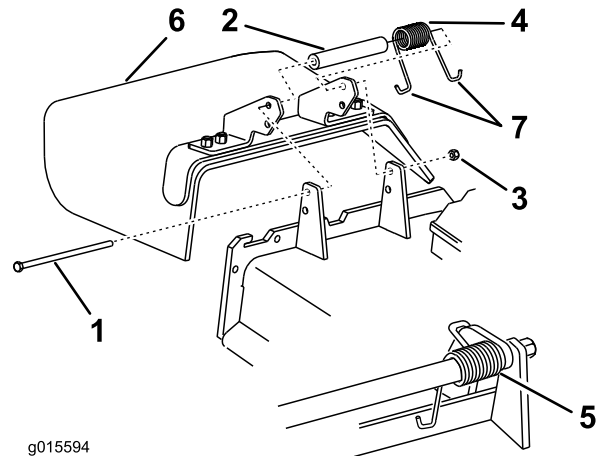

Figure 98
1. Remove the locknut, bolt, spring, and spacer holding the deflector to the pivot brackets (Figure 98).
Note: Make sure one J-end of spring is installed behind deck edge before installing the bolt as shown in Figure 98.
4. Install bolt and nut. Place one J-hook end of spring around grass deflector (Figure 98).